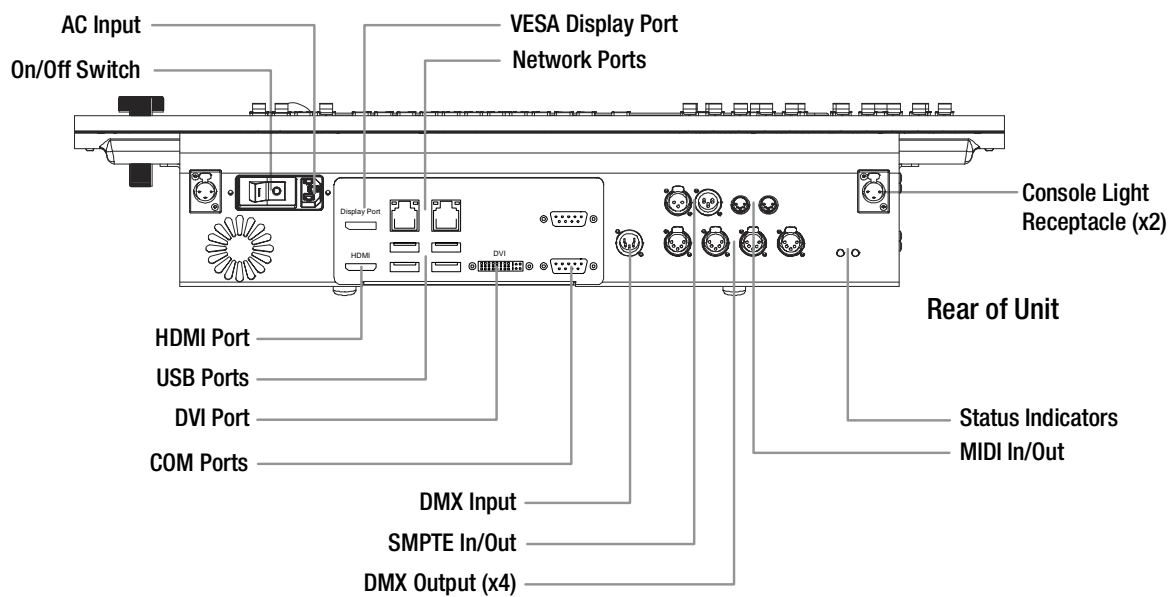

**Figure 1: NEO Lighting Control Console Control Features**
**Figure 1** shows the features and controls of the NEO Lighting Control Console. Refer to the documentation supplied on the console USB Key or on-line manual for additional information and operation.